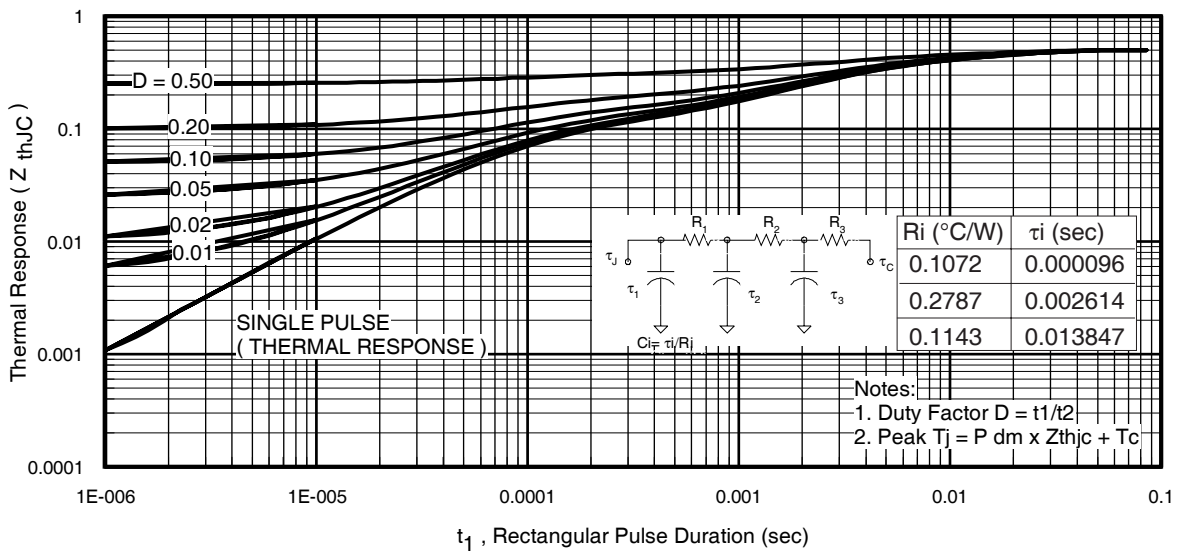

Fig 11. Maximum Effective Transient Thermal Impedance, Junction-to-Case
- ① Repetitive rating; pulse width limited by max. junction temperature. (See fig. 11).
- ② Limited by T_{Jmax} , starting $T_J = 25^\circ\text{C}$, $L = 0.026\text{mH}$, $R_G = 25\Omega$, $I_{AS} = 110A$, $V_{GS} = 10V$. Part not recommended for use above this value.
- ③ Pulse width $\leq 1.0\text{ms}$; duty cycle $\leq 2\%$.
- ④ $C_{oss\ eff.}$ is a fixed capacitance that gives the same charging time as C_{oss} while V_{DS} is rising from 0 to 80% V_{DSS} .
$Z_{thJC}(D, t_{av})$ = Transient thermal resistance, see figure 11)